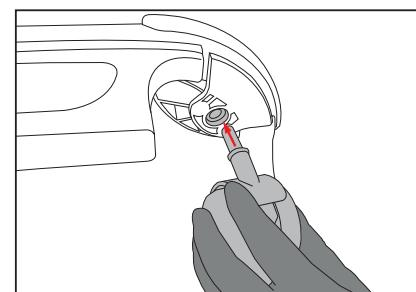

**Figure 1.1**
- Remove everything from the box and identify the parts using **Figure 1.1**. (not to scale)